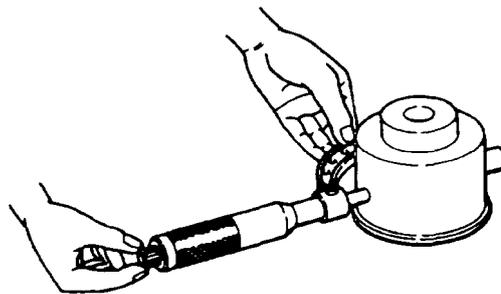

Figure 32 Measuring the Idle Gear Shaft
- aa. Measure the diameter of the idle gear shaft with a micrometer (Figure 32). The limits are 44.94 to 44.97 mm (1.769 to 1.771 in). Replace the idle gear shaft if the wear exceeds the limit.